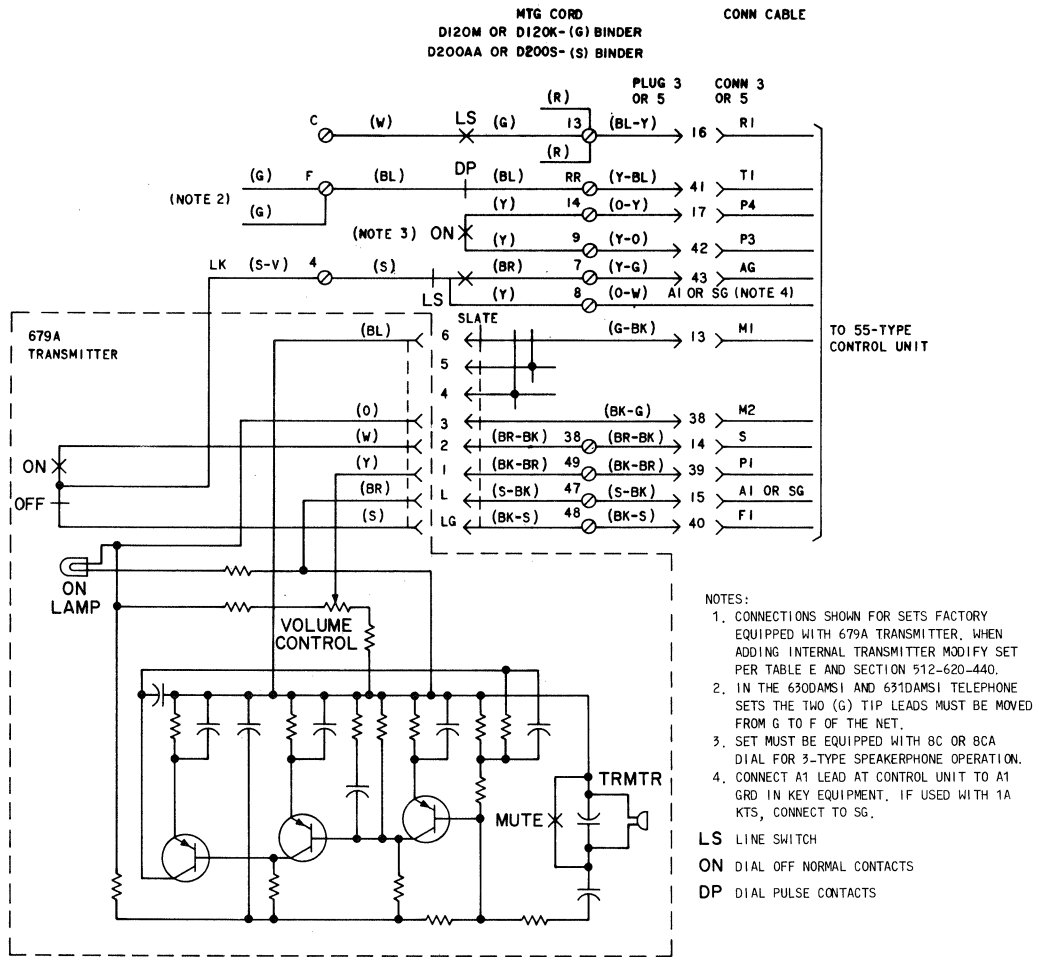

Fig. 5—3-Type (MD) Speakerphone System Connections Using Internal 679A (MD) Transmitter
2. IN SETS EQUIPPED WITH A 658A KEY, THE (G) CONTACT STRIP LEAD IS TERMINATED ON 17 AND (R) ON 18. IF A 658A KEY IS ADDED IN THE FIELD, LEADS MUST BE MOVED FROM PRECEDING MODULE CHAINING CIRCUIT TO TERMINALS 17 AND 18.
5. MODULE MAY ALSO BE EQUIPPED WITH A 679A TRANSMITTER FOR 3-TYPE SPEAKERPHONE. SEE FIG. 5.
6. TO SUPPLY "I" HOLD FEATURE, TERMINATE (O-Y) MOUNTING CORD LEAD FROM (BL) BINDER ON TERMINAL 24. LEAD BECOMES SP LEAD AT EQUIPMENT.
9. THESE CONTACT STRIPS ARE REQUIRED WHEN TELEPHONE SET IS EQUIPPED WITH THE D120K (MD) OR THE D200S (MD) MOUNTING CORD. THESE CONTACT STRIPS SHOULD NOT BE USED WHEN TELEPHONE SET IS EQUIPPED WITH THE D120M OR D200AA MOUNTING CORD OR WHEN TELEPHONE SET IS EQUIPPED WITH A MODIFIED D120K OR D200S MOUNTING CORD.